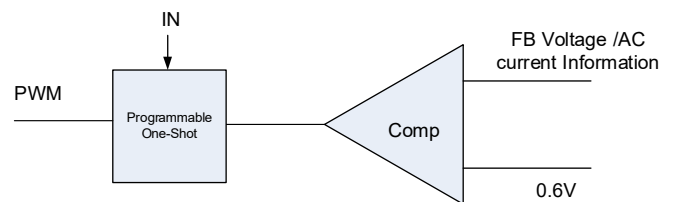

Figure 2. Simplified Control Schematic of AOZ1267AQI
The simplified control schematic is shown in Figure 2. The high-side switch on-time is determined solely by a one-shot whose pulse width can be programmed by one external resistor and is inversely proportional to input voltage (IN). The one-shot is triggered when the internal 0.6V is higher than the combined information of FB voltage and the AC current information of inductor, which is processed and obtained through the sensed lower-side MOSFET current once it turns-on. The added AC current information can help the stability of constant-on time control even with pure ceramic output capacitors, which have very low ESR. The AC current information has no DC offset, which does not cause offset with output load change, which is fundamentally different from other  $V^2$  constant-on time control schemes.